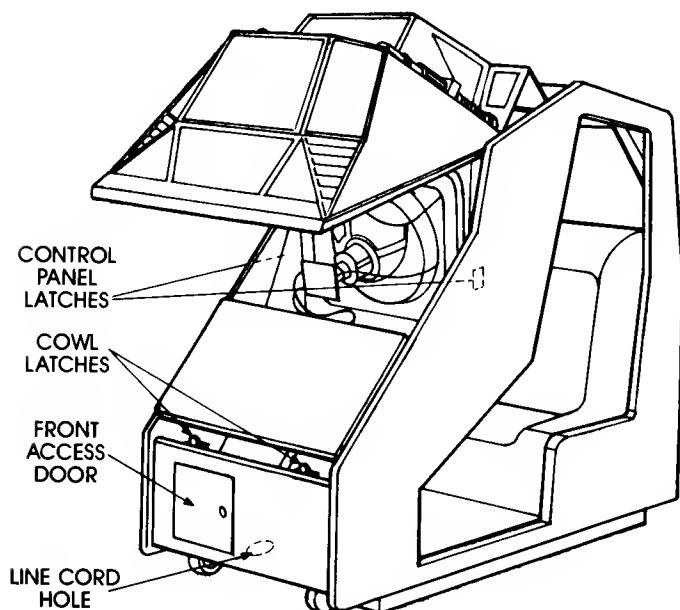

Figure 1. Cockpit model with hood raised.
☐ **COCKPIT GAMES:** See Figure 1. (1) Unlock the access door on the front of the game. (2) Now extend your arm to the left and right inside the door. Undo the two hood trunk latches. (3) Raise the hood. (4) Loosen the two access screws at the sides of the circuit board panel. (5) Raise the panel and inspect circuitry.